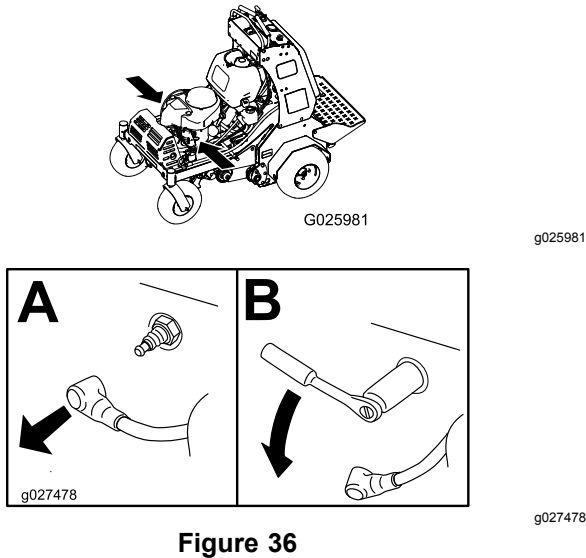

Figure 36
2. Remove the spark plug as shown in Figure 36.